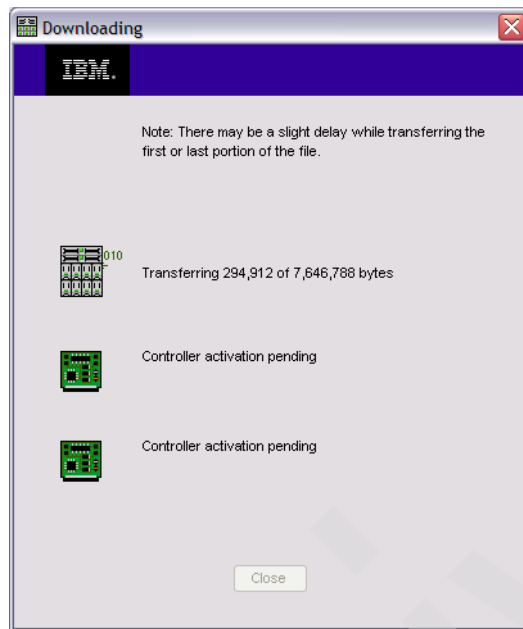

Figure 14-21 Downloading
6. The microcode will now be transferred to the storage subsystem and applied to both installed controllers. This may take some time and you can monitor the status in the Downloading window that appears (Figure 14-21).